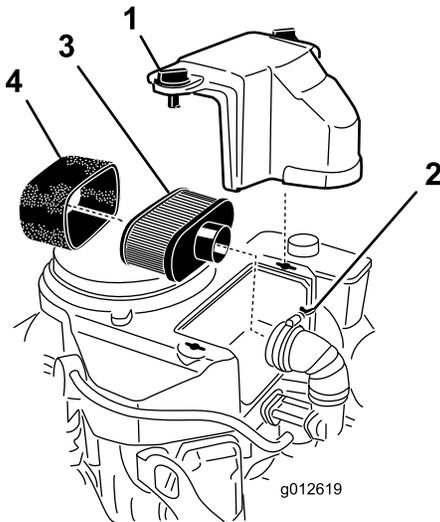

Figure 24
3. Clean around the air cleaner to prevent dirt from getting into the engine and causing damage (Figure 24).
4. Unscrew the cover knobs and remove the air-cleaner cover (Figure 24).
5. Unscrew the hose clamp and remove the air cleaner assembly (Figure 24).
6. Carefully pull the foam element off the paper element (Figure 24).
1. Do not clean the paper filter, replace it (Figure 24).
1. Carefully slide the foam element onto the paper air-cleaner element (Figure 24).
2. Place the air cleaner assembly onto the air cleaner base and secure it with the 2 wing nuts (Figure 24).
3. Place the air-cleaner cover into position and tighten the cover knob (Figure 24).